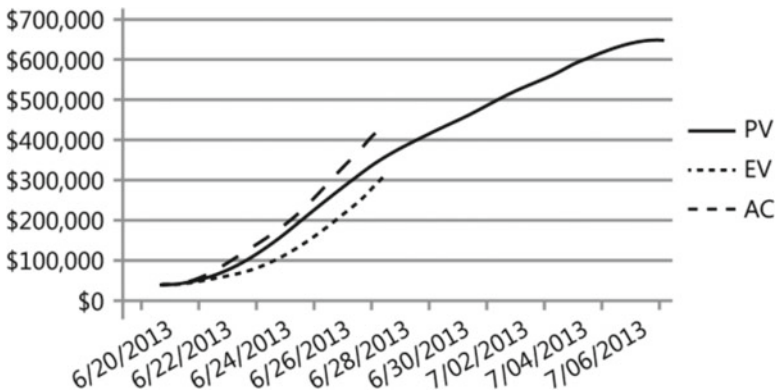

Figure 5-5. A record of project planned value, earned value, and actual cost
- *Earned value (EV)*: The value of the work that has been completed. This is not the actual cost of the work that has been completed but rather the original ascribed value from your approved cost baseline for the value of the work.
- *Actual cost (AC)*: The actual realized cost incurred for the work done to date. You can get a record of this from your accounts system.
- Figure 5-5 shows the BAC, PV, EV, and AC on a single graph. Incidentally, it shows a project in trouble in terms of both time and cost: the AC is above the PV, and the EV is less than the PV.